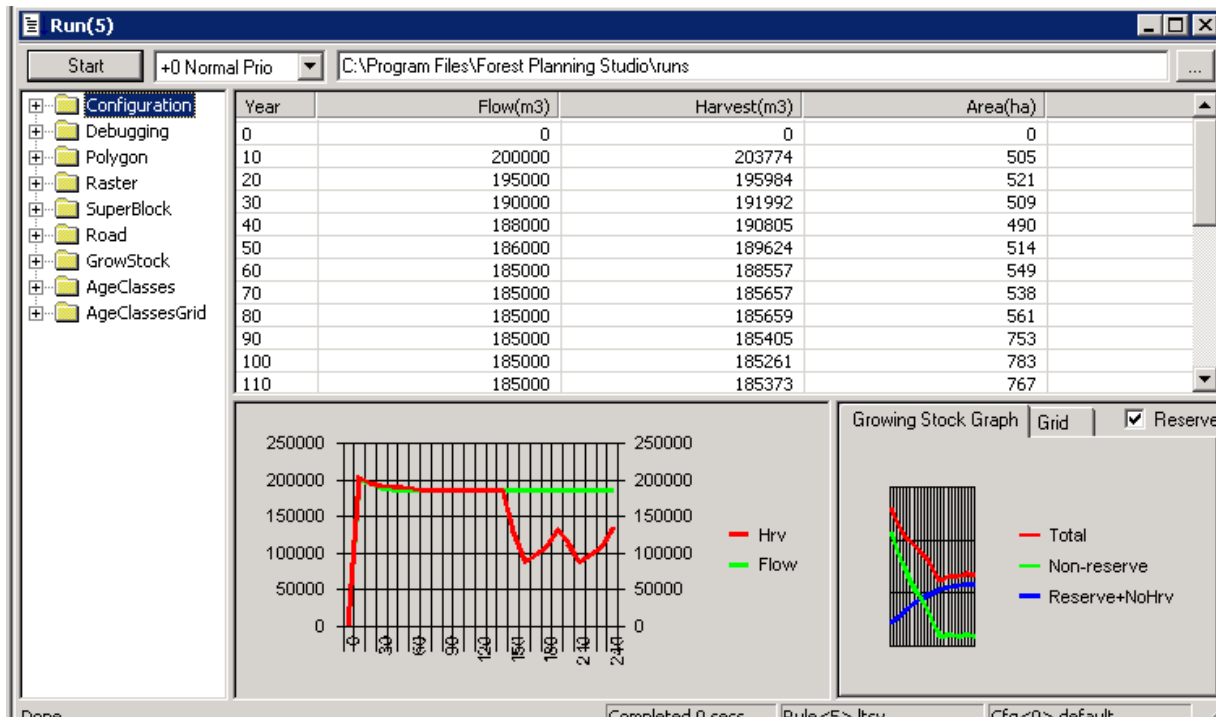

Figure 30: Harvest schedule with a no harvest constraint on a reserve zone.
3.4.1 Click the *Run* button. The harvest schedule should match figure 30.